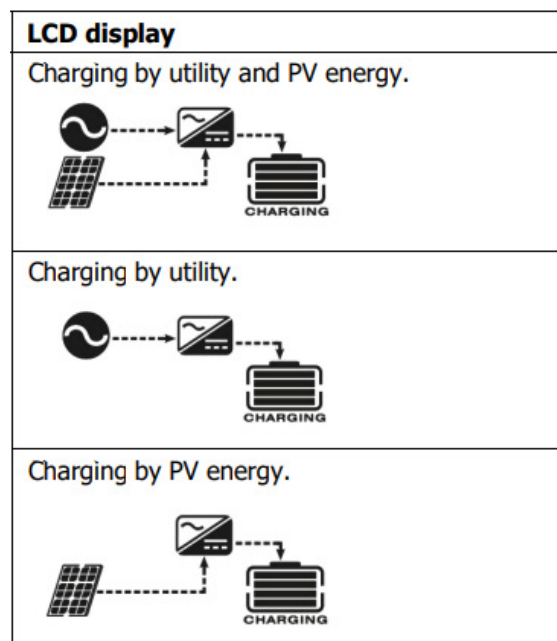

Figure 10.1 Power System Charging
1. Switch on the battery (5)
2. Take the plug (6) and plug into a wall outlet
3. Switch on the inverter (7)
4. Observe the display to confirm that the battery begins charging as shown by *Figure 10.1*, below.